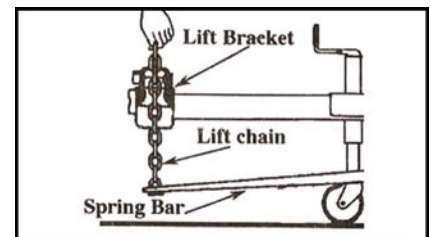

Figure 6: Center the lifting bracket parallel with the spring bar chains.
•Position the spring bar, which has been attached to the hitch head, parallel with the trailer tongue. Hold the lift chain vertical up alongside the trailer tongue. Position the lift bracket on the trailer tongue so that the chain is centered between the lift bracket (see Figure 6). NOTE: If chain is angled it may catch the bracket when turning, this can damage the lift bracket or pry it open during use.
•Mark the location of the lift bracket on the trailer tongue then start installing the 1/2" x 3-1/2" bolt ⑥ into the threaded hole in the lift bracket. Turn the bolt in until it contacts the trailer tongue, then tighten 1/4 turn with a wrench. DO NOT OVERTIGHTEN.
•With the lift bracket in the raised and locked position, pull straight up firmly on the spring bar lift chain. Note which link is closest to the lift bracket hook. Mark the next lower chain link (see Figure 6).